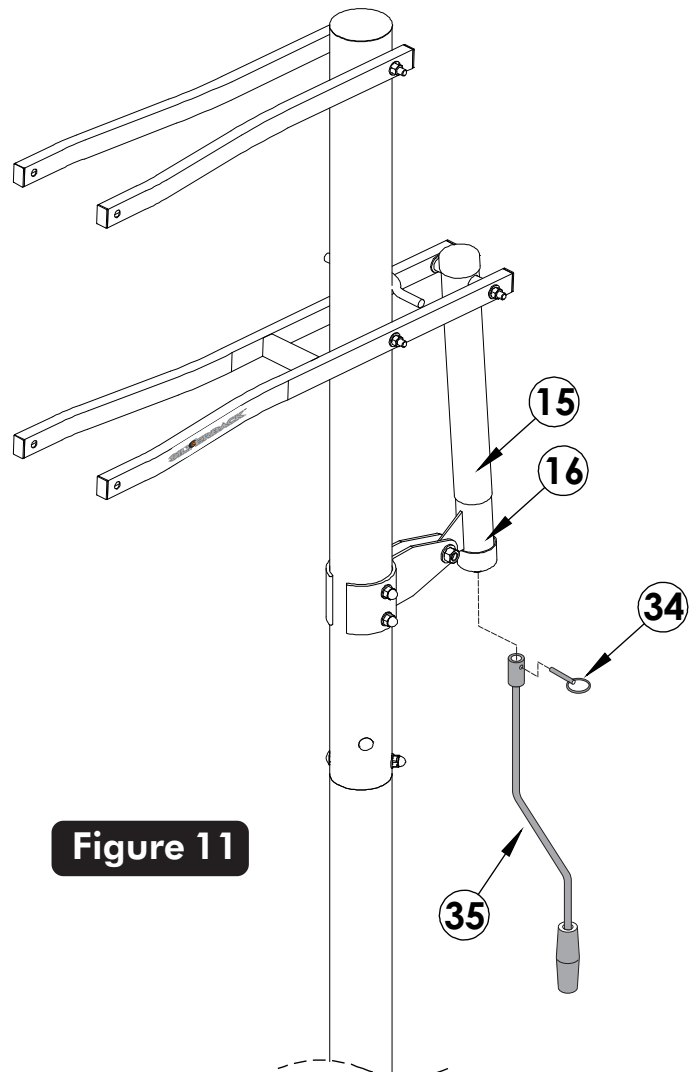

Figure 11
22. Slide actuator handle (#35) onto shaft on the bottom of Actuator (#16). Line up hole in shaft with hole in actuator handle and insert Pin (#34) to secure. See **Figure 11**.